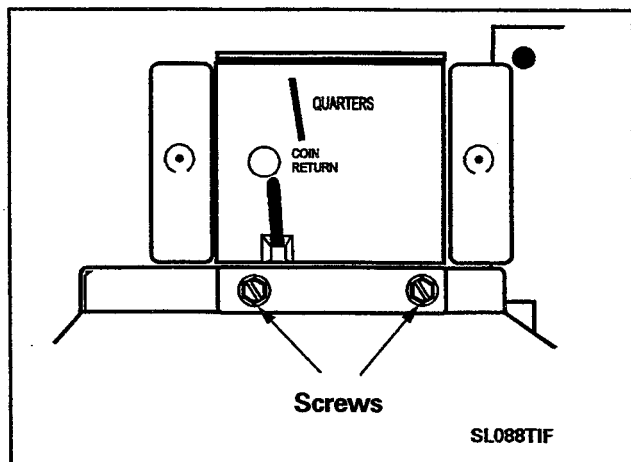

Figure 2-12
3. Remove two 3/8" screws holding coin drop mounting plate (*Figure 2-12*).